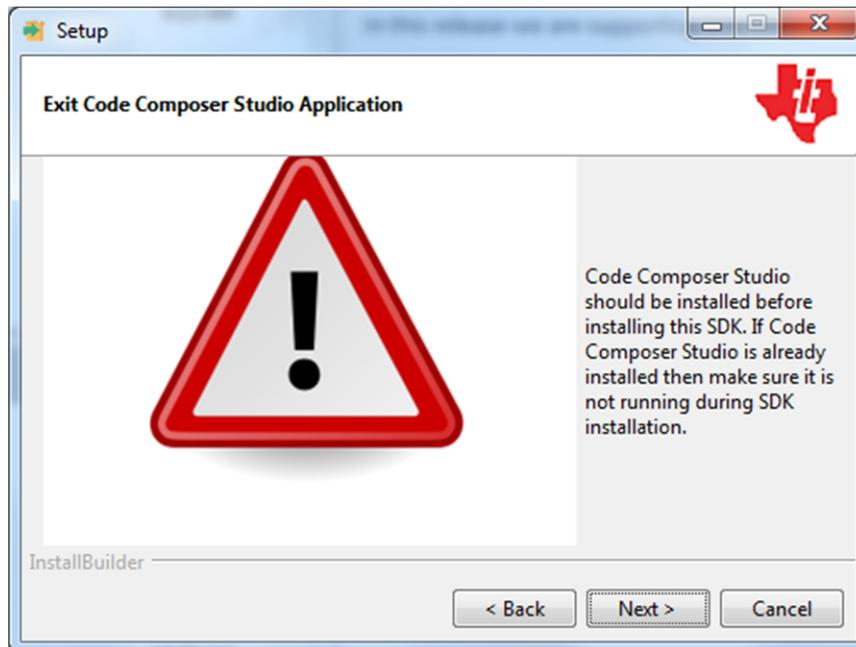

Figure 18. Warning Message to Close CCS
Step 7. Ensure all running instances of CCS are closed (see Figure 18).